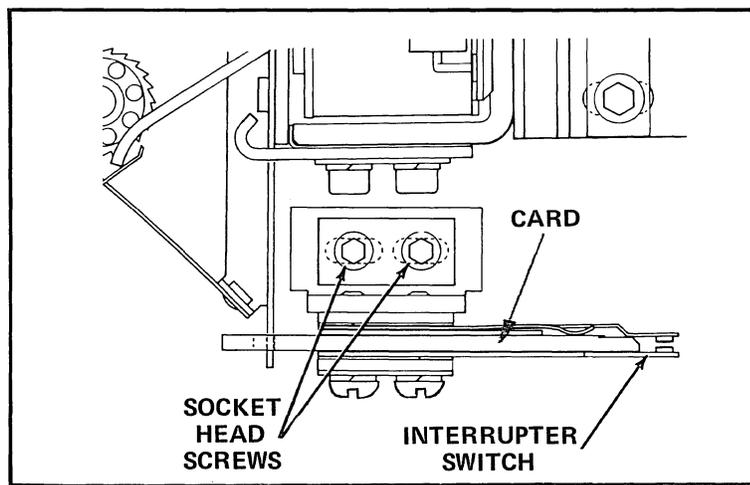

Figure 6-13 Armature Adjustment
- (1) To adjust, loosen two socket head mounting screws. See Figure 6-13. With ohm meter or buzzer connected across the interrupter terminals, manually operate armature. Adjust switch to break at point where the feed pawl snaps into next tooth.
- (2) Tighten the two socket head screws.
- (3) To check the interrupter switch remake timing, manually operate the interrupter switch card. See Figure 6-13. This will partially operate the armature and open the interrupter switch.